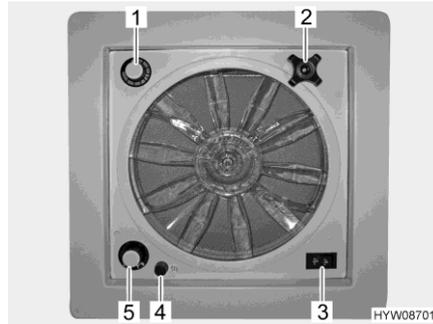

Fig. 74 Skylight with fan
- ▷ A 4 A fuse (Fig. 74,4) protects the fan motor against overloading. If an overload has occurred: Determine and correct the cause (e.g. dirty fan) before replacing the fuse.
- Turn the rotary handle (Fig. 74,2) until the desired opening angle is reached.
- Set the flip switch (Fig. 74,3) to "Aerate" (air flows from the outside inwards) or "Vent" (air flows from the inside outwards).
- Set flip switch (Fig. 74,3) to the central position.
- Turn the rotary switch (Fig. 74,5) to the desired setting:
- Turn the thermostat (Fig. 74,1) as far as possible in the "blue" direction.
- Turn the black cover (Fig. 74,4) counterclockwise a quarter of a turn.